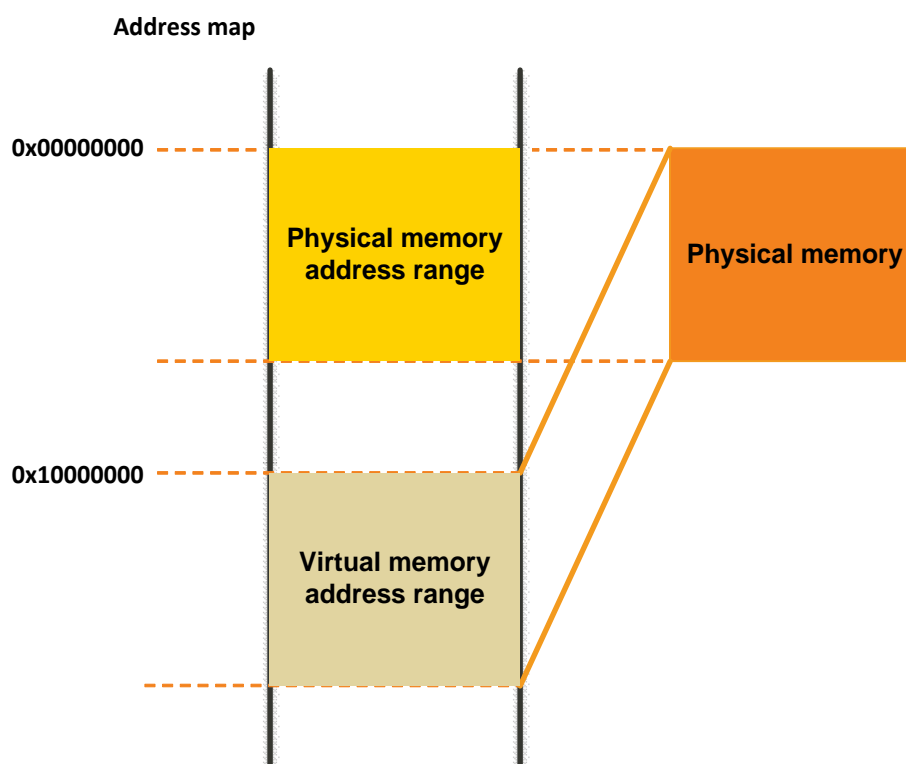

Figure 2-1. MT2523x virtual memory mapping
The virtual memory on the MT2523x is provided for cacheable memory and is implemented based on the memory mapping mechanism of ARM Cortex-M4. The virtual address range from 0x10000000 to 0x14000000 is mapped to the PSRAM address range from 0x00000000 to 0x04000000, as shown in Figure 2-1. The virtual memory region (0x10000000 ~ 0x14000000) is used as cacheable memory. All read-write (RW) data is stored in this region by default.